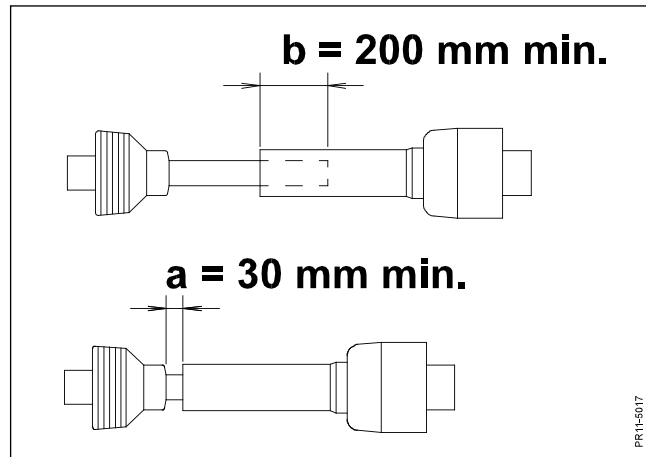

Fig. 2.6
IMPORTANT: The profile tubes of the PTO shaft must fully comply with the overlapping measures shown in Fig. 2-6.
- Fig. 2.6** Adjust the PTO shaft so that it has the biggest possible overlapping